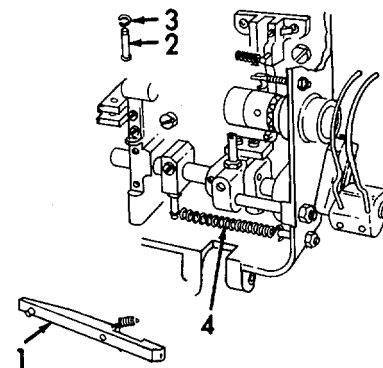

Figure 6-146. Thread Lock Finger, Installation .
- (8) Refer to Figure 6-146. Place lock finger (1) into position.
- (9) Install pin (2) and C-washer (3).
- (10) Install spring (4).